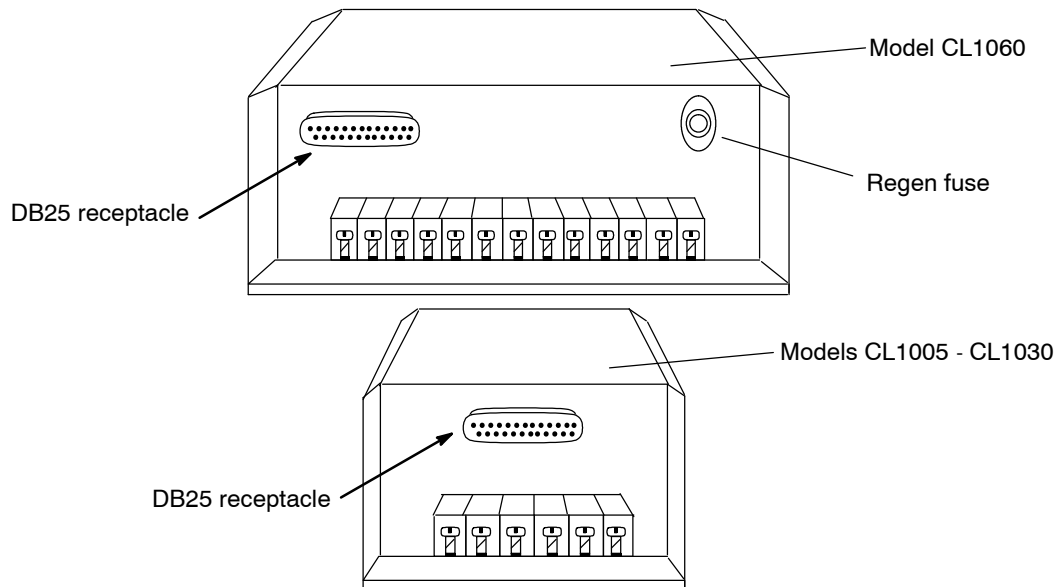

Figure 35 Drive-to-Controller Connector Locations
1. At the drive, push the cable DB25 connector into the receptacle mounted above TB1. Refer to Figure 35 to locate the DB25 connector receptacle on drive models CL10005 - CL1030 and on drive/power supply model CL1060.